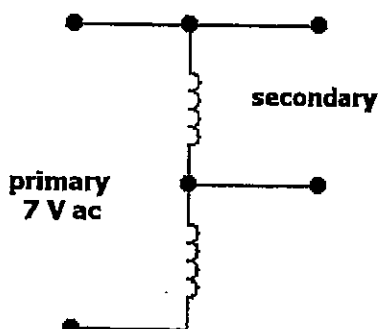

Fig 13.3
- 13- Let the full low side winding be the primary of a step-down autotransformer. Apply approximately 7 volts to the primary, as shown in Fig 13.3.